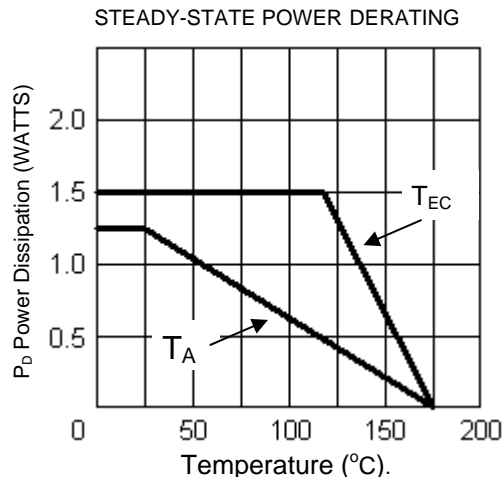

FIGURE 1 Typical Zener Impedance vs Zener Current for Types Shown
- Power dissipation at 25°C: 1.5 watts (also see derating in Figure 1).
- Steady-State Power: 1.50 watts at end-cap temperature $T_{EC} \leq 115^{\circ}\text{C}$, or 1.25 watts at $T_A = 25^{\circ}\text{C}$ when mounted on FR4 PC board and recommended footprint as described for thermal resistance (also see Figure 1)